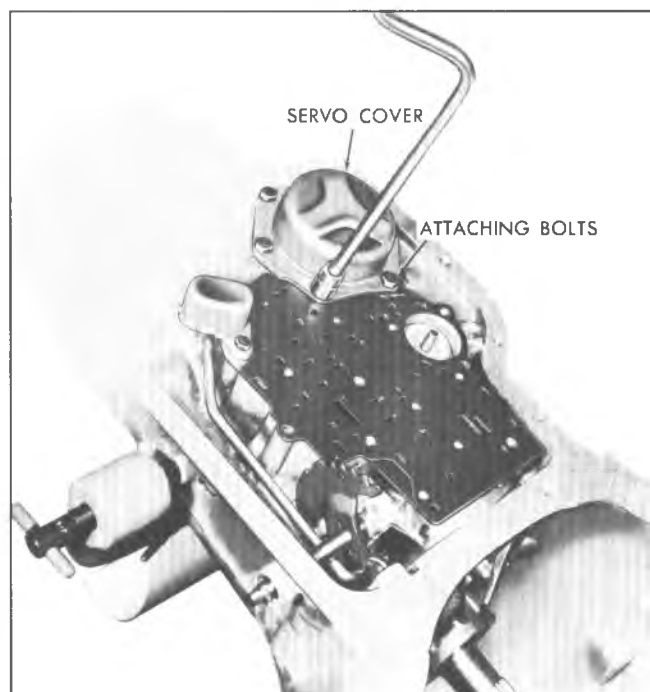

Fig. 11T--Removing Rear Servo Cover Attaching Bolts
1. Remove rear servo cover attaching screws, servo cover and gasket. Discard gasket (fig. 11T).